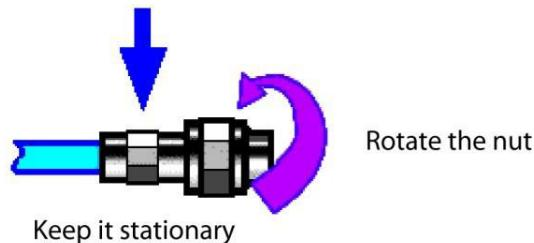

Fig. 3.5 Diagram of connector rotation
Step 2. as shown in Fig. 3.5, horizontally move two connectors to make them connected smoothly. Tighten the connector nut by means of rotation (do not rotate the connector). Avoid relative rotation of connectors during connection.